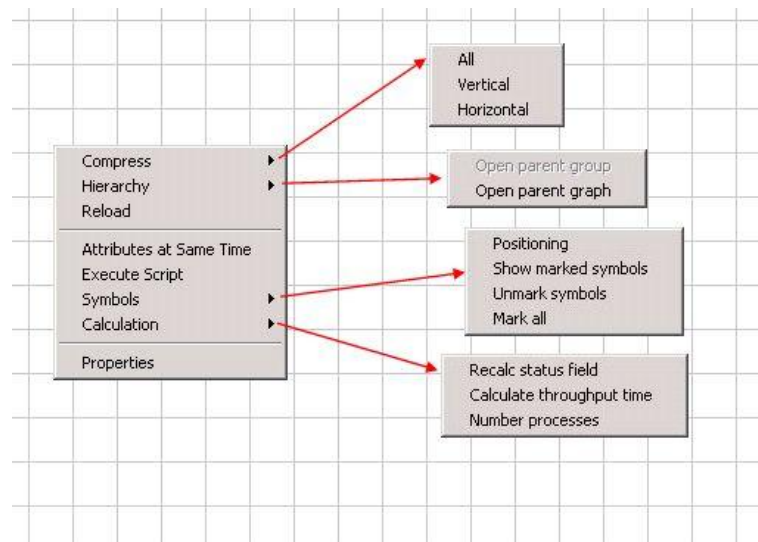

Figure 119: Right Mouse Button Functions, Click in the Process Graph
- 2) Open the context menu and select **Execute script**. Please refer to the Figure 119.